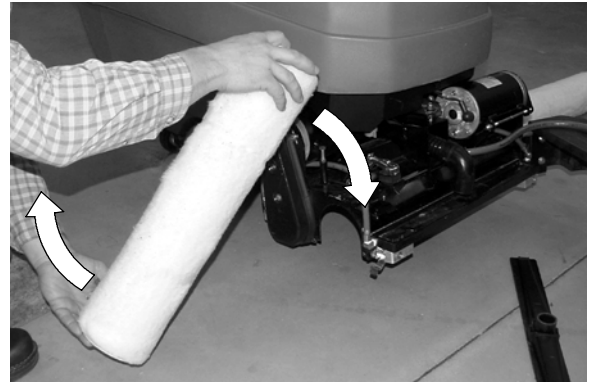

FIG. 30
- Flip the ReadySpace rollers end-for-end every 10 hours of use (Figure 30). The roller life is rated for at least 100 hours of use under normal cleaning conditions. If the gap between the two rollers is greater than 4mm (5/32") replace the rollers.